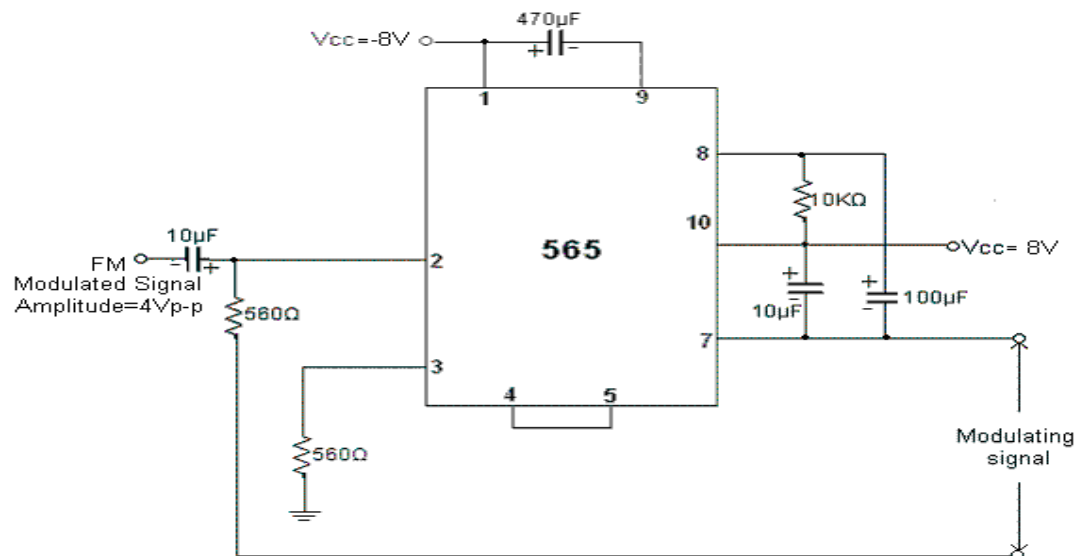

Fig.3. FM Demodulator Circuit
1. Connections are made as per circuit diagram shown in Fig.3